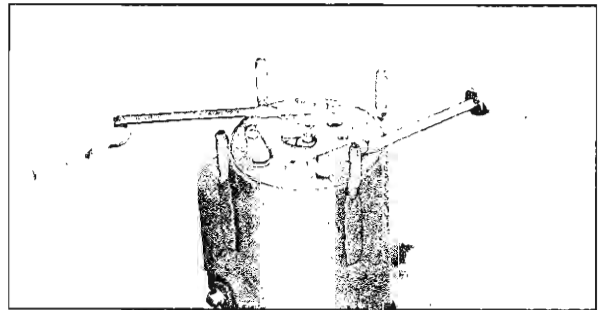

Fig. 27—Removing Rear Discharge Valve Plate
7. With two screwdrivers, carefully pry up on the rear discharge valve plate assembly (fig. 27). Check for broken reeds or damaged seats and replace entire assembly if such is found.